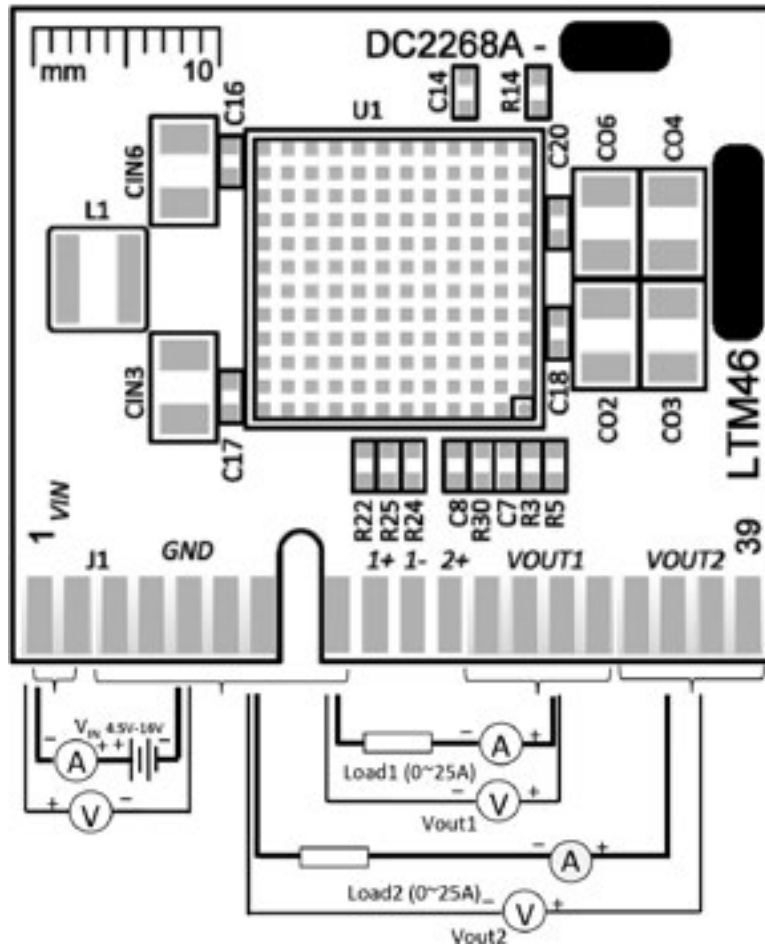

Figure 2. Test Setup of DC2268A-H
Demonstration circuit DC2268A-H is easy to set up to evaluate the performance of the LTM4650-1. It can be easily inserted to an edge connector (SAMTEC MEC2-20-01-L-DV-TR) for testing and debugging. Please refer to Figure 2 for proper measurement setup and follow the procedure below:
2. With power off, connect the input power supply, load and meters as shown in Figure 2. Preset the load to 0A and  $V_{IN}$  supply to 12V.